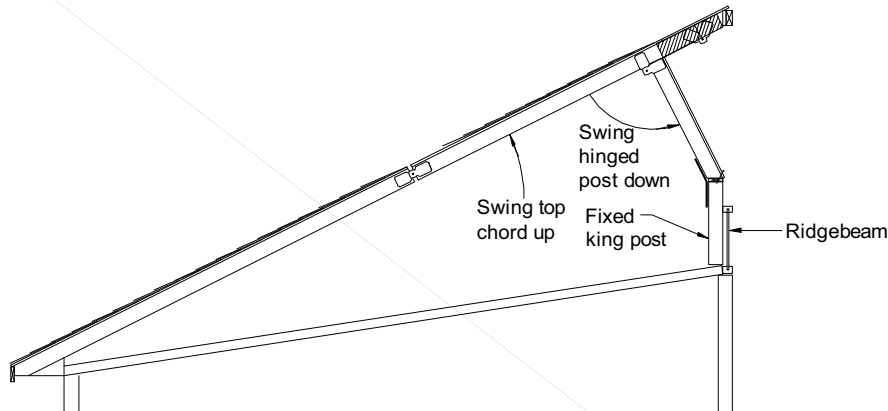

Figure 23. Hinged Roof Truss (drawing is typical, actual configuration may vary)
4. **Secure king posts.** Position the hinged king posts atop the fixed king posts or against the wooden stop (**Figure 23**). The king posts are hinged to the underside of the hinged-truss top chord. Position them as needed to level the roof, aligning each hinged king post with the king post directly beneath it, and securing in place using straps, sheathing and fasteners as shown in **Figure 24**, **Figure 25**, **Figure 26** and **Table 15** and **Table 16**.